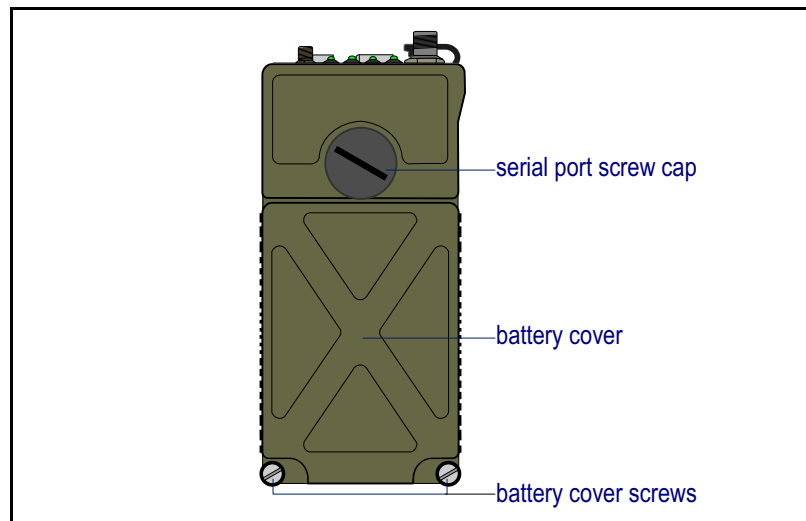

Figure 2.1. ES210 Battery Cover with Screws and Serial Port Cap
- 1 Unscrew the ES210 battery cover screws and lift the battery cover (Figure 2.1).
- 2 Unscrew the battery cover screws and lift the battery cover (Figure 2.1).
The Bridge's serial console port is located under the screw cap on the front of the chassis, above the battery compartment, as shown in Figure 2.1.